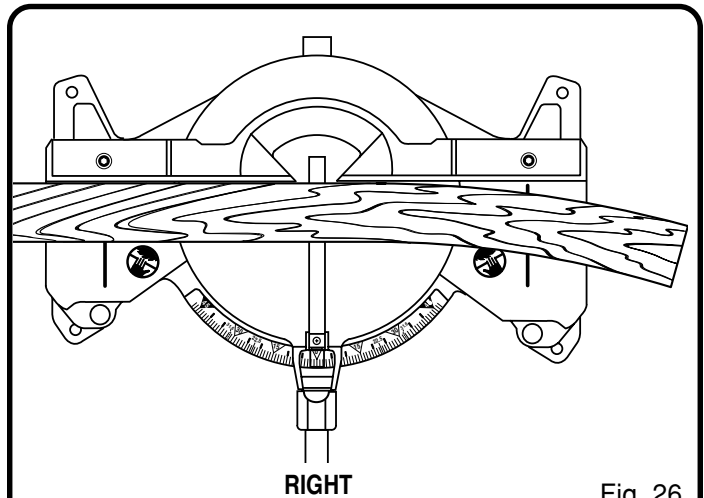

Fig. 26
- Place the workpiece flat on the miter table with one edge securely against the fence. If the board is warped, place the convex side against the fence. If the concave edge of a board is placed against the fence, the board could collapse on the blade at the end of the cut, jamming the blade. See Figures 26 and 27.
See Figures 26 and 27.
When cutting warped material, always make sure it is positioned on the miter table with the convex side against the fence as shown in figure 26.